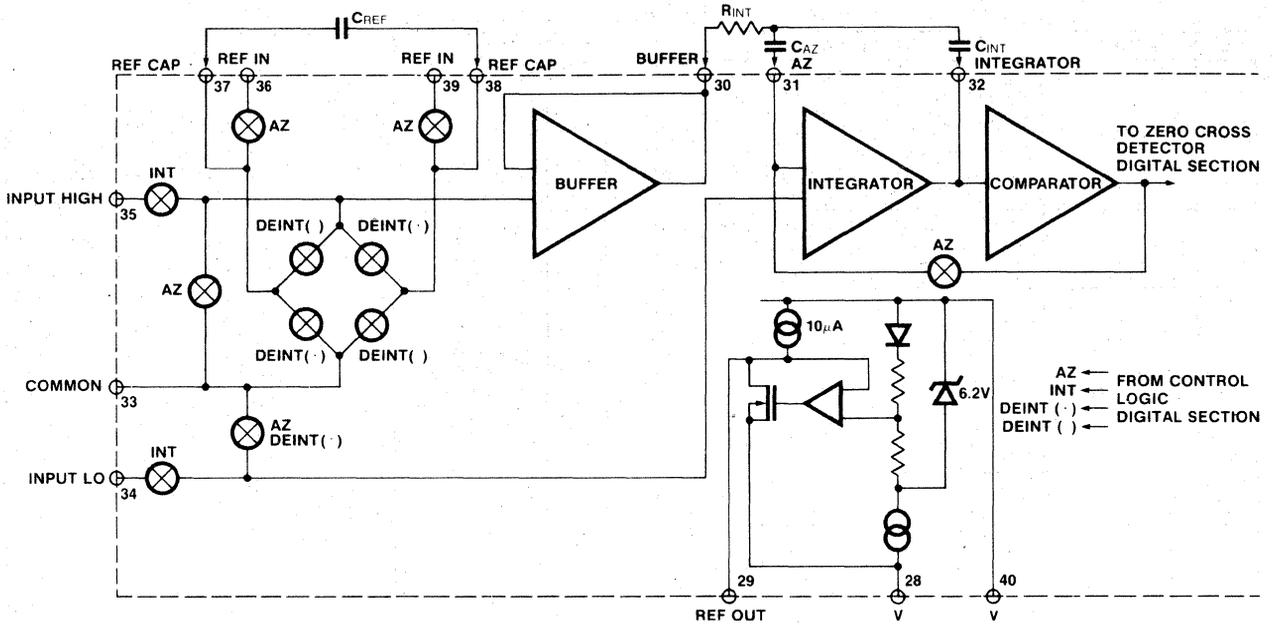
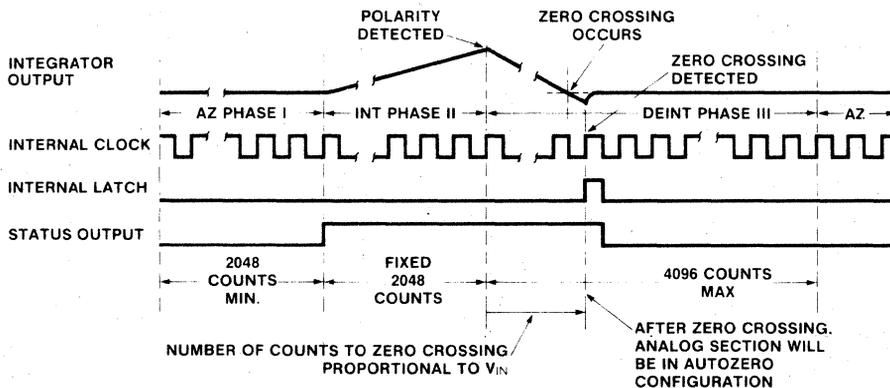

Figure 2: Analog Section
Figure 3: Conversion Timing
Figure 2 shows the equivalent circuit of the Analog Section of the ADC-7109. When the RUN/HOLD input is left open or connected to V⁺, the circuit will perform conversions at a rate determined by the clock frequency (8192 clock periods per cycle). Each measurement cycle is divided into three phases as shown in Figure 3. They are (1) Auto-Zero (AZ), (2) Signal Integrate (INT) and (3) Deintegrate (DE).
During a conversion cycle, the STATUS output goes high at the beginning of Signal Integrate (Phase II), and goes low one-half clock period after new data from the conversion has been stored in the output latches. See Figure 3 for details of this timing. This signal may be used as a "data valid" flag (data never changes while STATUS is low) to drive interrupts, or for monitoring the status of the converter.
When the RUN/HOLD input is connected to V⁺ or left open (this input has a pullup resistor to ensure a high level when the pin is left open), the circuit will continuously perform conversion cycles, updating the output latches at the end of every Deintegrate (Phase III) portion of the conversion cycle (See Figure 3). In this mode of operation, the conversion cycle will be performed in 8192 clock periods, regardless of the resulting value.